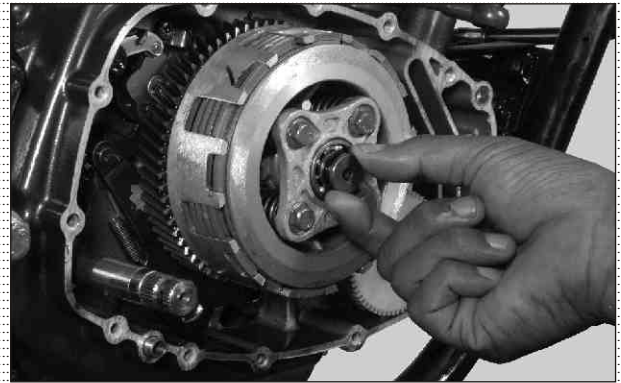

Fig. 3.7
- Take out adopter pin clutch release from the clutch assembly. (Fig. 3.7)